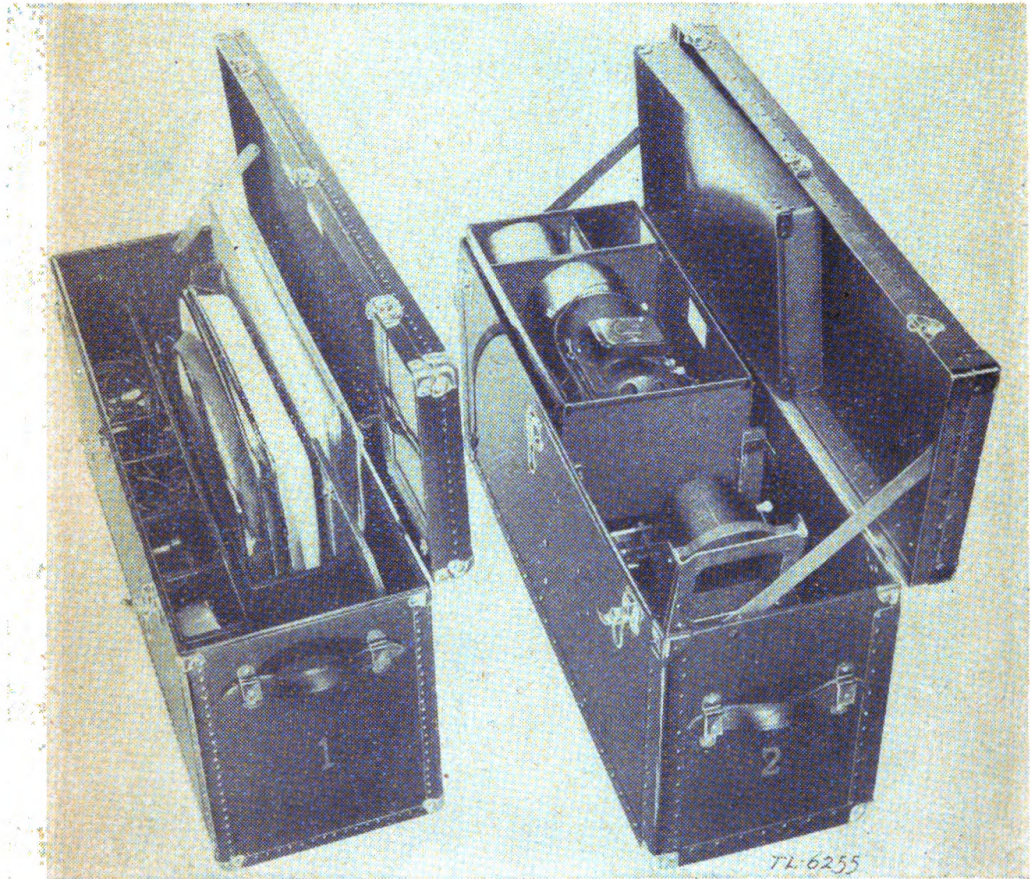

FIGURE 2.—Cases open ready for unpacking.
(1) Open both carrying cases by releasing the two-fast action fasteners and opening the trunk latch lock (see fig. 2).
(2) Remove the printer baseboard from case 1 and place in a suitable position on a table or bench in the darkroom previously prepared.
(3) Loosen the latches and straps and lift out the girder bar, printer assembly, and fiber box containing accessories from case 2.
(4) Remove the lamp housing assembly.
(5) Remove all components and accessories from their compartments in case 1.
(1) Open the lens wide and study the projected image for contrast. The degree of contrast will determine the contrast of the paper which should be used.
(2) Turn the printer lamp on and close the diaphragm of the lens until the image appears to have a brightness that will require an exposure of at least 10 seconds. The diaphragm has clicking stops to make it easier to judge the size of the opening. The ability to decide when an image has the desired degree of brightness requires practice, but is an excellent way to judge exposures.
(3) Place a strip of test paper on the paper board in such a manner that it will cover an area of the negative which is uniform and of average density. Set the timer for exposures of 4, 8, 12, and 16 seconds, and expose a strip for each period. If a storage battery is supplying power to the printer, the timer cannot be used and must be replaced by the foot switch. Exposure time, in this case, must be estimated by use of a watch or some other timing device.
25. Dismounting and packing equipment.—After all processing has been completed, the equipment must be thoroughly cleaned and properly packed. The trays must be washed free of any solution and wiped dry. Disconnect the electrical connections and place each item in its traveling position (fig. 2), making certain that all straps and brackets are tight. Failure to take these precautions will result usually in damage to the equipment during transport.